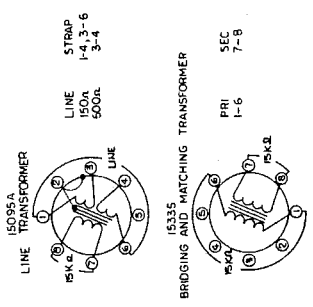
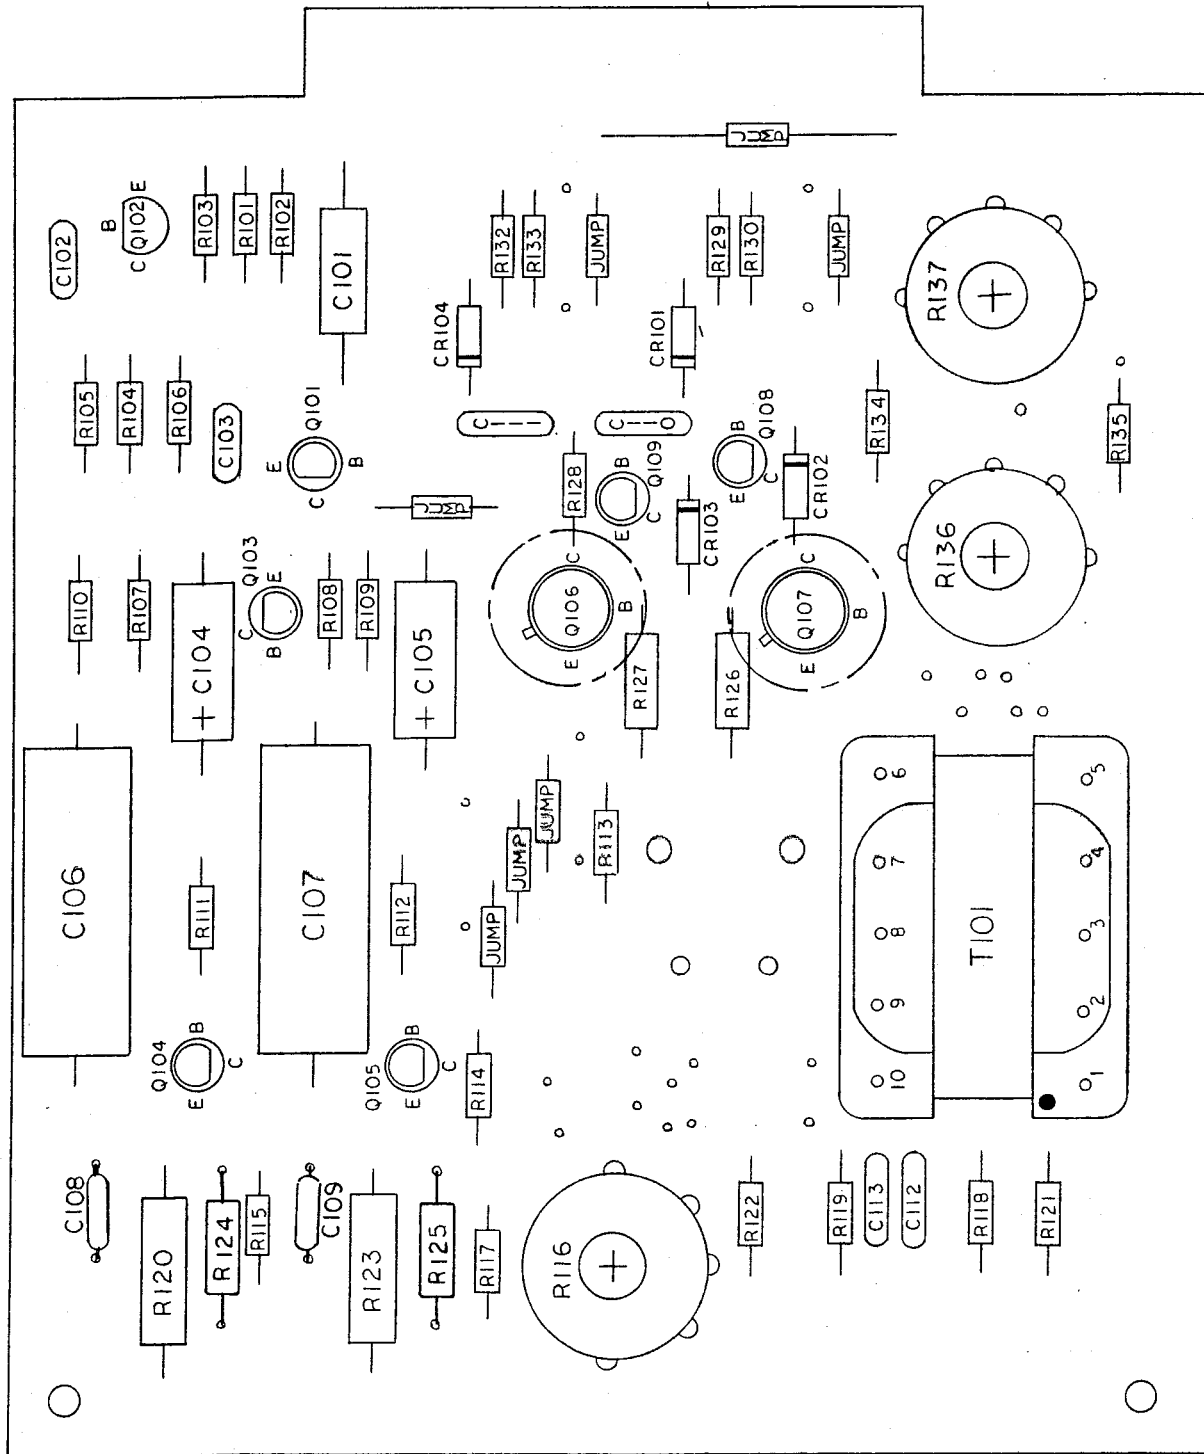

Figure 12. Schematic (3D 186-11), 1594B Power Amplifier
Figure 13. Component Locations (3C661-4), Power Driver PCB Assembly
Main chassis component locations are shown in Figures 10 and 11. The 1594B schematic is shown in Figure 12. Component locations on the power driver PCB are shown in Figure 13.
- Step 1. Connect a 16-ohm dummy load across terminals 2 (16 ohms) and 5 (common) of TB2 (see Figure 12).